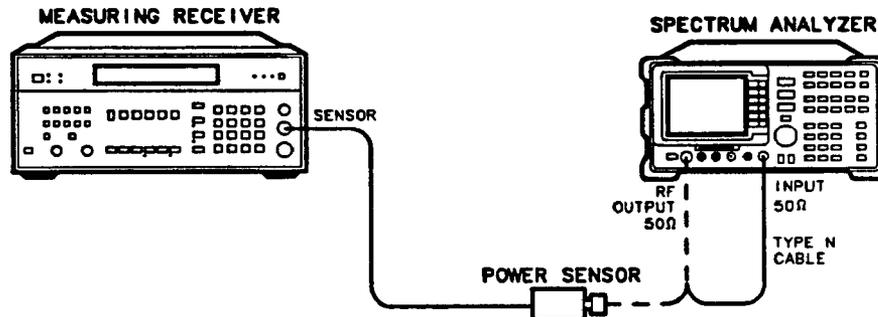

Figure 2-3. BITG Power Level Adjustment Setup
7. Disconnect the cable from the RF OUT 50Ω connector, then connect the power sensor to the RF OUT 50Ω connector. See Figure 2-3.